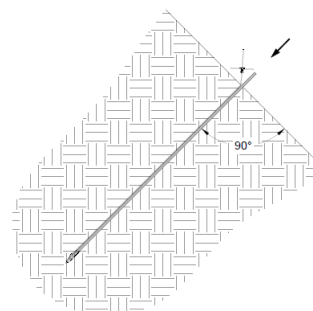

Figure 17: Drive Steel to Drive the Anchor into the Ground
3. Using a percussion hammer, guide the drive steel into the ground perpendicular to the slope surface at a smooth pace. Continue driving until the desired embedment depth is reached (Figure 17).